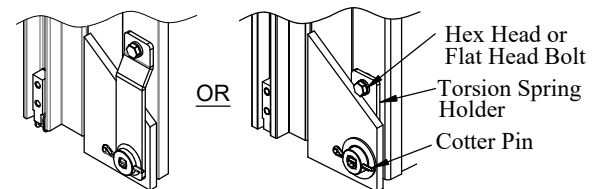

Figure 4A:
9. **Remove** the platform from the slider noses (skip if Figure 4A).